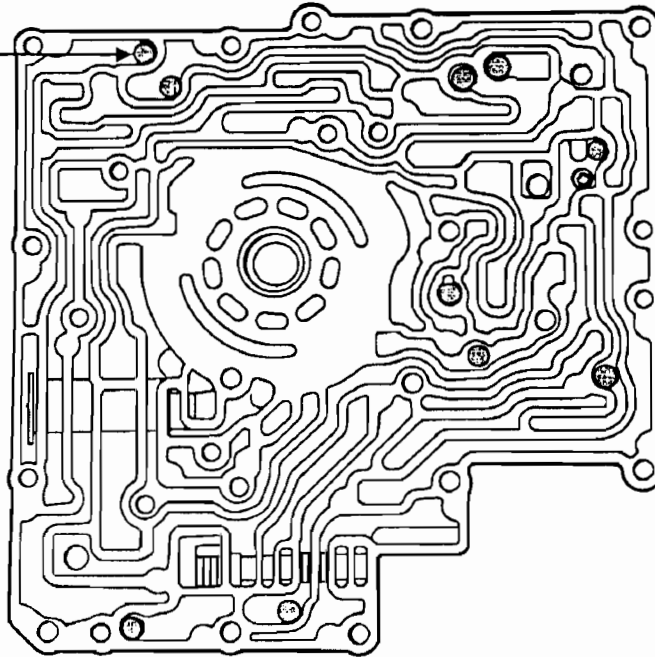

Figure 21
5. Ensure that the B3 Checkball located in the pump is in the proper location, as shown in Figure 21, and is the proper diameter.